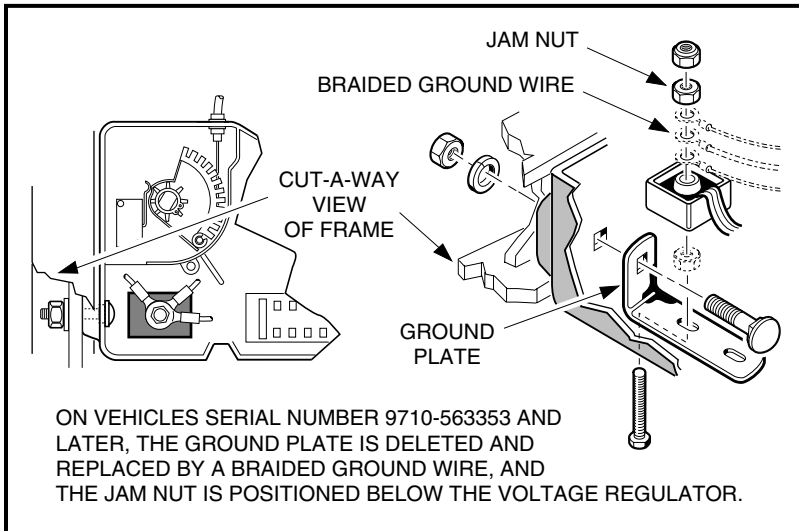

FIGURE 12-59
3. A third ground plate is in the bottom of the electrical component box where the bolt secures the voltage regulator to the box. The other end of this ground plate attaches through the side of the electrical box and is bolted into the frame (**Figure 12-59**) (**See NOTE at top of Page 134**). Be sure all these ground straps are securely connected at both ends of each strap.